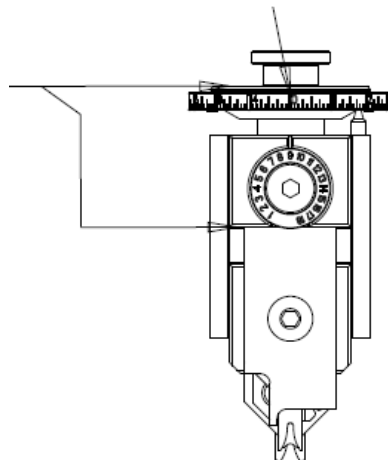

Figure 13
- a. Verify the setup dimension (distance from Crimper Seating Feature on the Ram) to the top of the Crimp Height Adjust Head (see Figure 13).